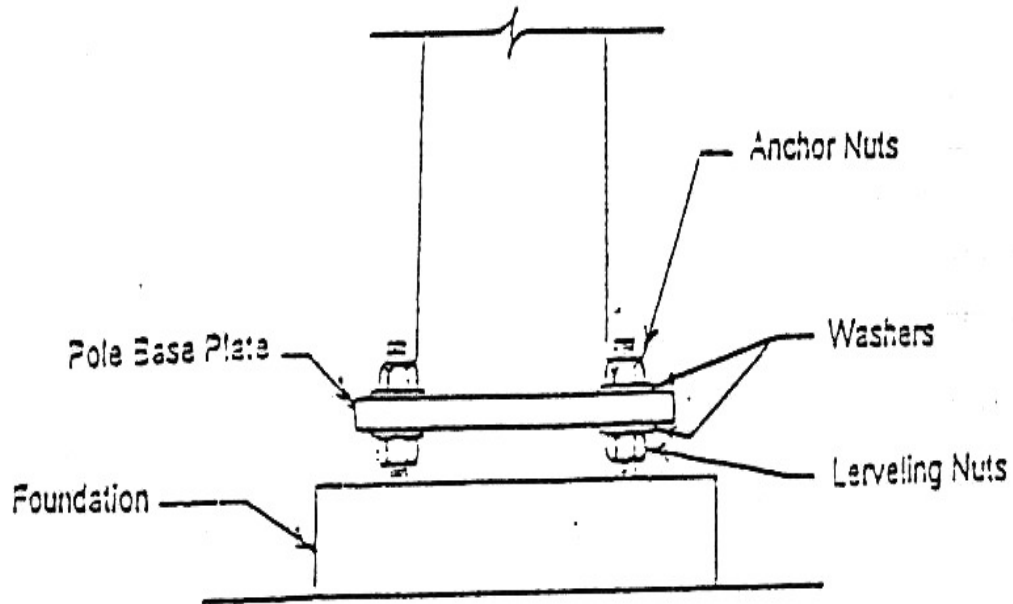

FIGURE 5
9. Place anchor nuts and washers on anchor bolts and tighten. (FIG.5).